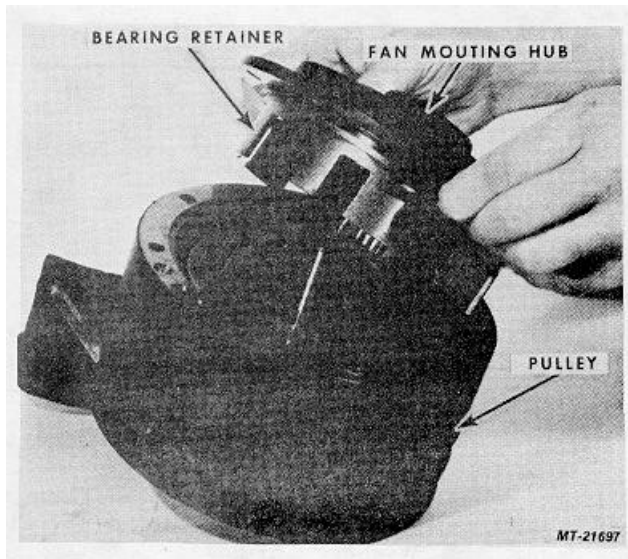

Fig. 5
2. Lift Bearing Retainer from Pulley, Fig. 5